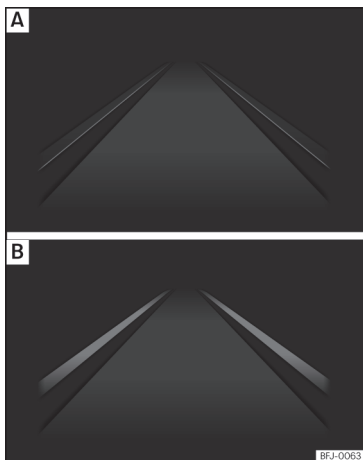

Fig. 272 On the instrument panel display: Indication on the Lane Assist system display [example 1].
- **Fig. 272 [A]:** The system is active, but not available, either because the minimum speed has not been reached or because the lane lines are not recognised.
- **Fig. 272 [B]:** The system is active and available, both lane lines are recognised. The steering angle is not being corrected at this moment.